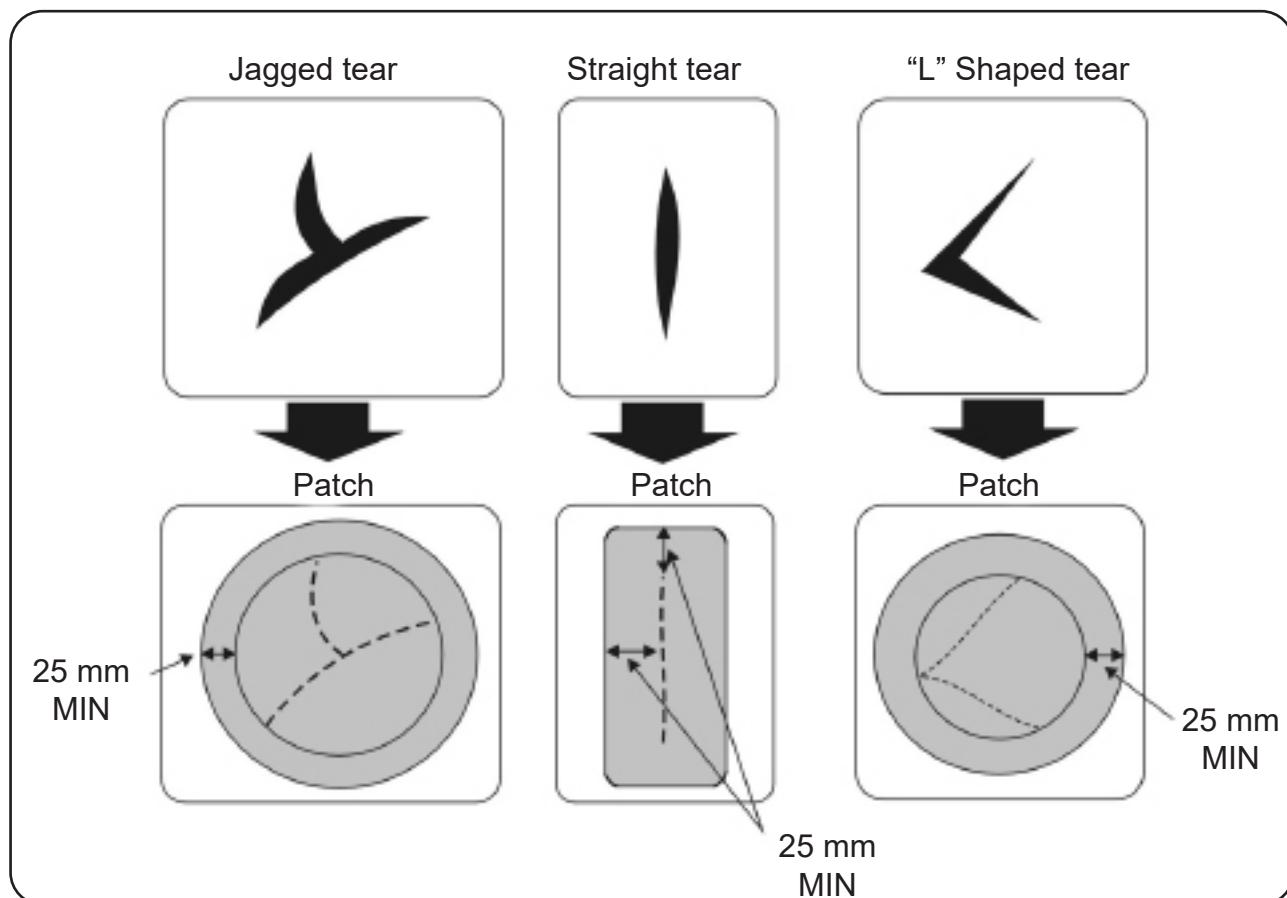

FIGURE 602
- 5.5.1 Repair patches must overlap at least 25 mm (1") beyond the edge of the damage. Refer to FIGURE 602 e.g:
- 5.5.2 Patches must be circular or rectangular with rounded corners. Refer to FIGURE 602.